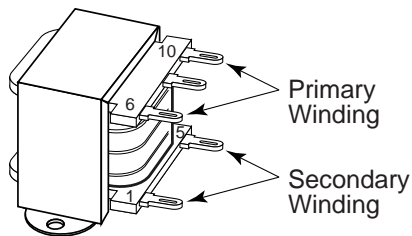

Figure 28
5. **To remove the lamp transformer (see Figure 28):**